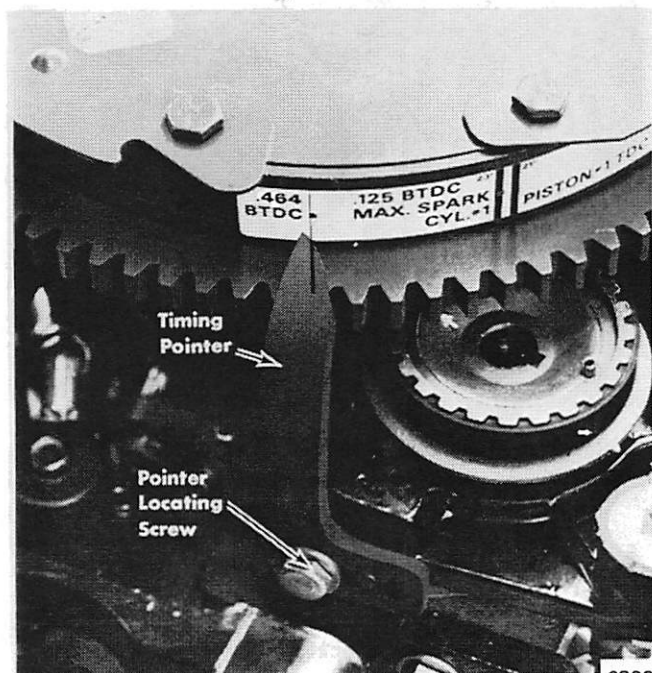

Figure 2. Timing Pointer at .464" BTDC Mark
6. Position timing pointer to align with .464" mark on flywheel decal. (Figure 2) Tighten the pointer attaching screw.